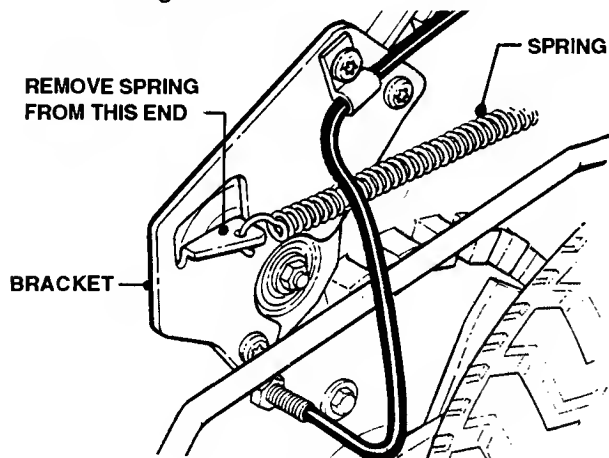

FIGURE 3.27
3. Remove spring from bracket (front). See Figure 3.27.